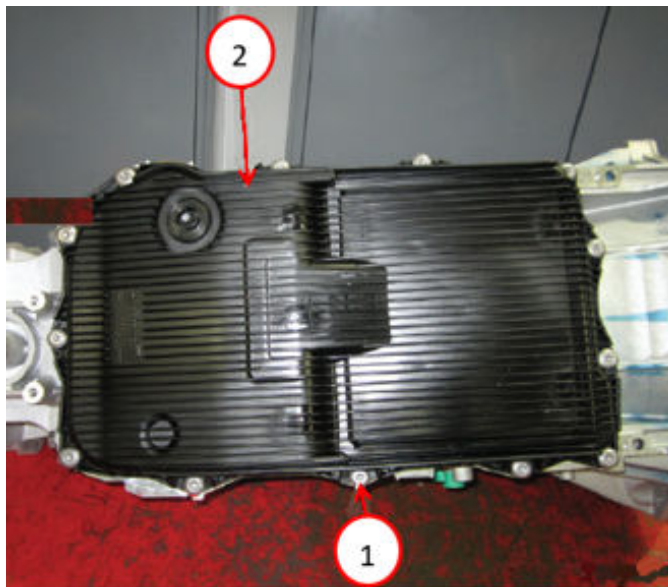

Fig. 6
11. Remove the transmission oil pan bolts Fig. 6.